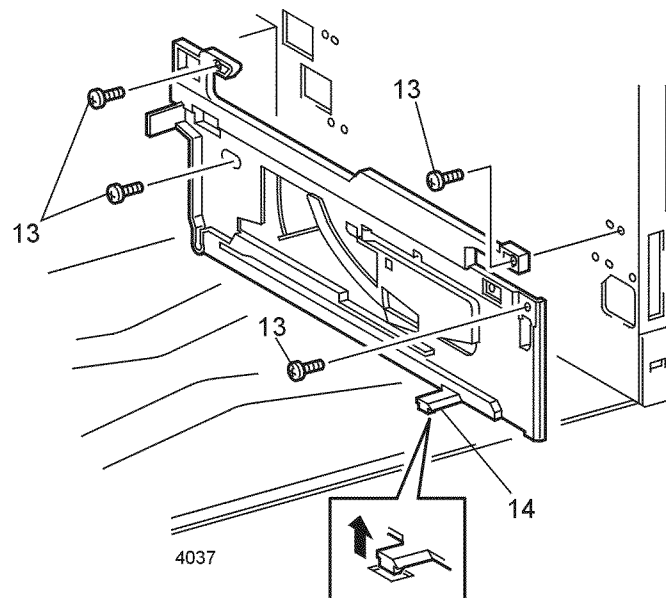

Figure 2 Tray 1 Right Guide Assembly
13. Remove the four screws that secure the Tray 1 Right Guide Assembly to the printer (Figure 2).
14. Use a small screwdriver to pry up on the locking tab that locks the guide assembly to the bottom of the printer (Figure 2).